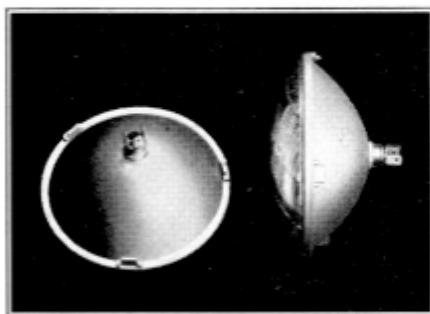

Figure 53
All Hudson models employ the new headlighting system known as "Sealed Beam," in which the light source, the reflector, the lens and the gasket are all assembled in one securely sealed unit. See Figure 53.
2. Loosen, but do not remove, the three screws (C), Figure 53, holding the retaining ring. (Do not disturb the aiming screws (A and B) at the top and left side of the unit.)